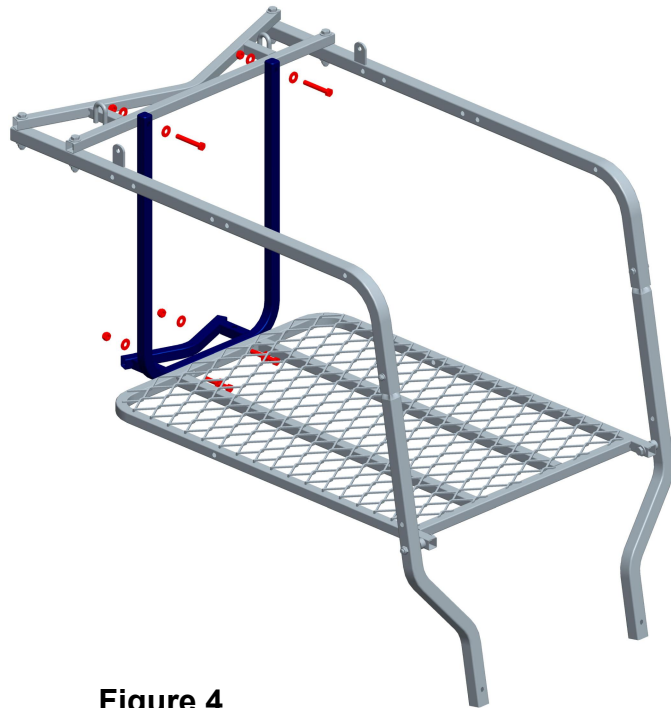

Figure 4
Locate Seat Support Frame W/Tree V Brace (#11). Install the Seat Support Frame W/Tree V Brace (#11) onto the Standing Platform (#8) and Tree Brace(#1) using four (4) M8x55 Bolts, eight (8) Steel Washers and four (4) Locknuts as shown in Figure 4. Securely tighten bolts.